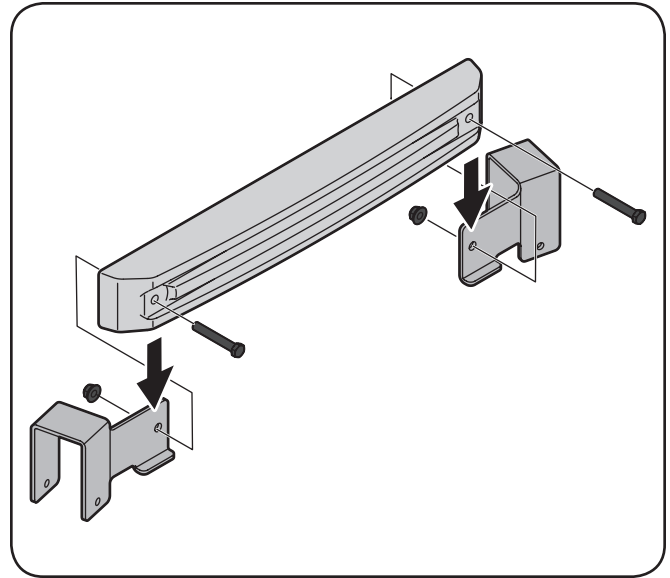

Figure 4-26
1. Attach the left mounting bracket and the right mounting bracket to the weight bar using two 2 1/2-inch screws (710-0859), and 3/8" flange nuts (712-04065) from hardware pack 689-00325. See Figure 4-26.